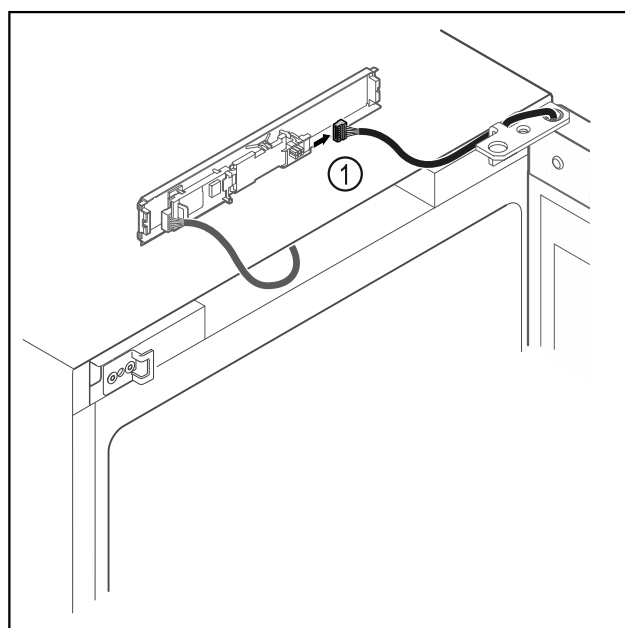

Fig. 7
- ▶ Disconnect the plug Fig. 7 (1) from the circuit board.